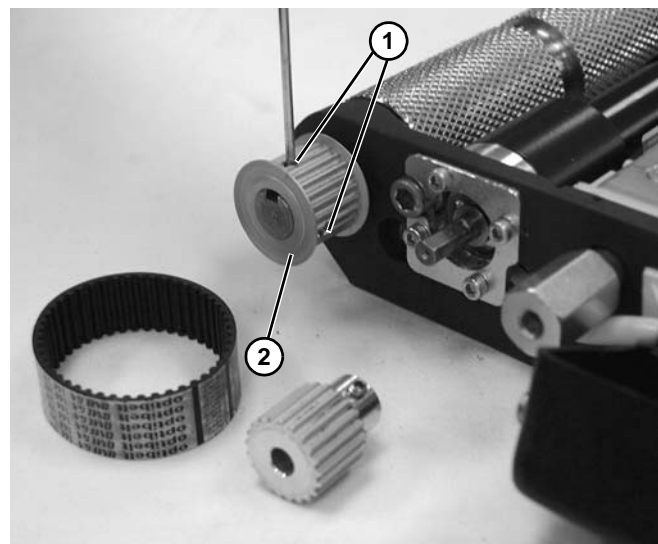

Figure 53
7. Loosen two set screws (Figure 53, item 1) on driven pulley (Figure 53, item 2), and slide off of shaft to remove.
8. Remove driven pulley (Figure 53, item 2).